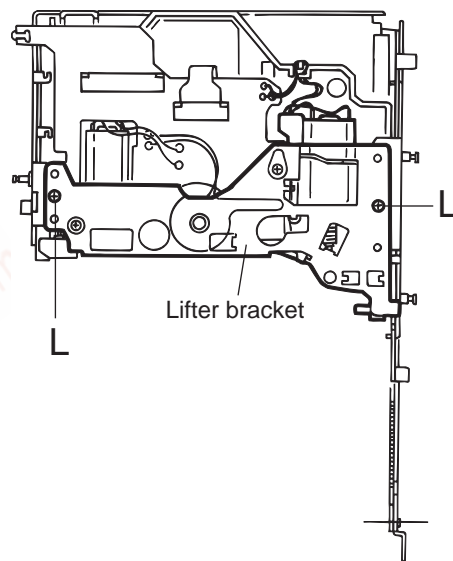

Fig.10
3.2.8 Lifter bracket (See Fig.10)